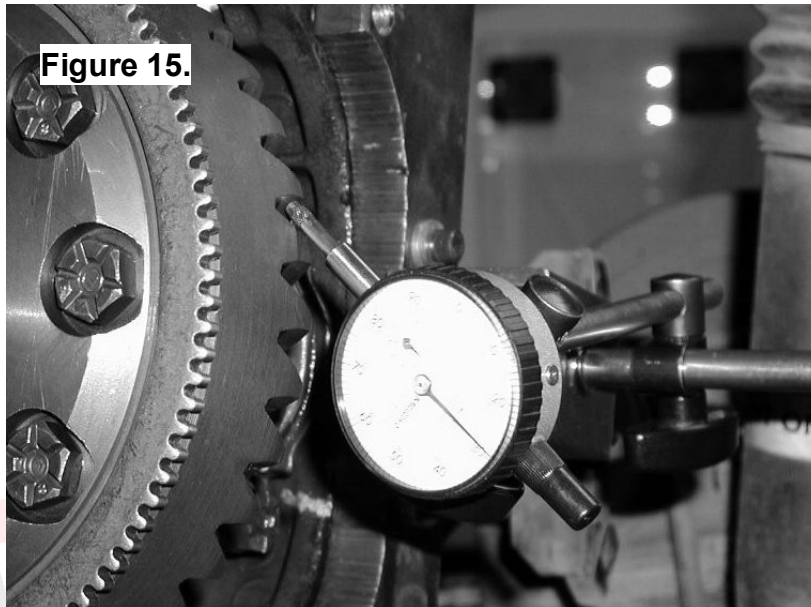

Figure 15.
- ☐ Set a depth indicator on one of the ring gear teeth as in Figure 15.